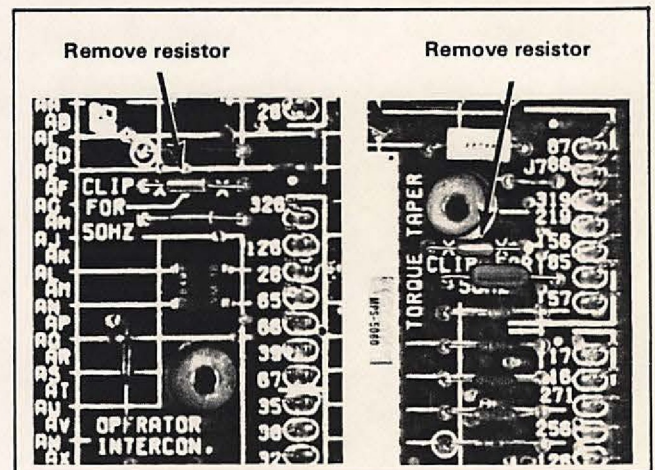

Figure 3.5 — 50-Hz Resistor Removal
**3.5 50-Hz Operation** — There may be cases when the FlexPak Plus controller is to be operated continuously on 50 Hz. If so, two resistors should be removed from the Regulator Module for optimum performance. (Refer to Figure 3.5.)